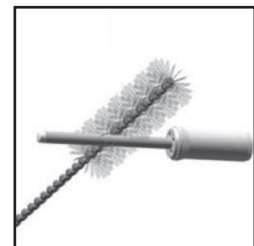

Fig. 20
- a. Remove all paint build up. (See fig 20)